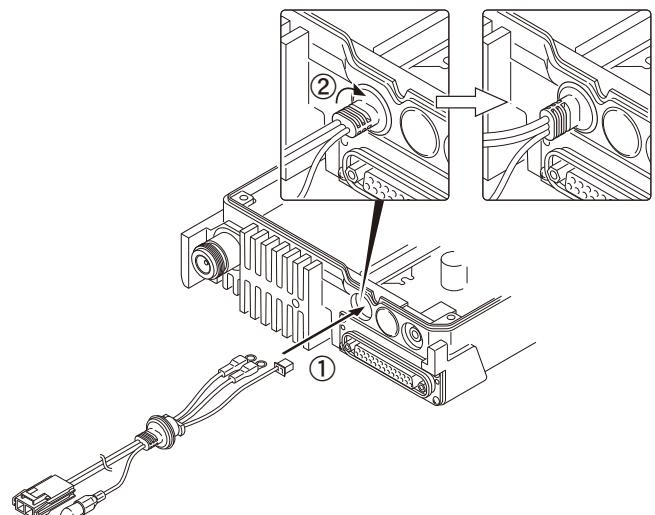
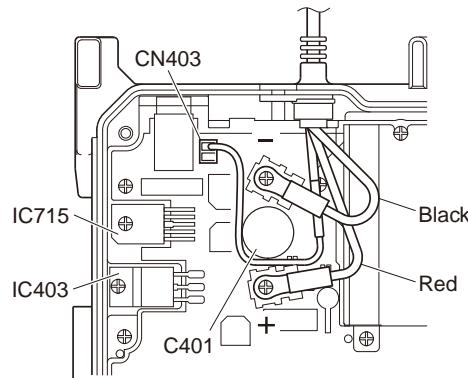

Fig. 4-1
Fig. 4-2
- Pass the power supply cable through the chassis hole (1) as shown in Figure 4-1 and insert the bush into the chassis hole.
- Rotate the bush of the power supply cable 90 degrees clockwise as viewed from the rear of the chassis. (2)
- Align the + (positive) terminal of the power supply cable (red) as shown in Figure 4-2 and fix it to the terminal strip with a screw.
- Align the - (negative) terminal of the power supply cable (black) as shown in Figure 4-2 and fix it to the terminal strip with a screw.
- Fit the convex tab of the top packing into the hollow of the chassis. (1)
- Fit the chassis into the groove of the top packing. (2)